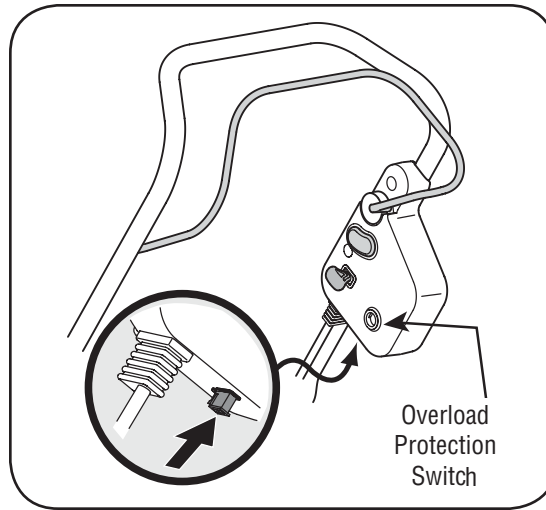

Figure 5-2
2. Press shield in on either side to remove from hole. See Figure 5-2.